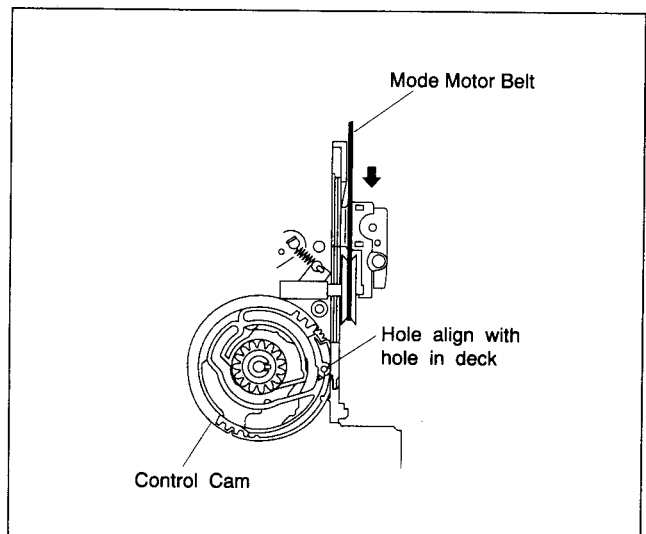

Fig. 2-4-1
- (1) Turn the mode motor belt by hand.
- (2) Confirm that the hole of the control cam are aligned to the deck hole as shown in Fig. 2-4-1.